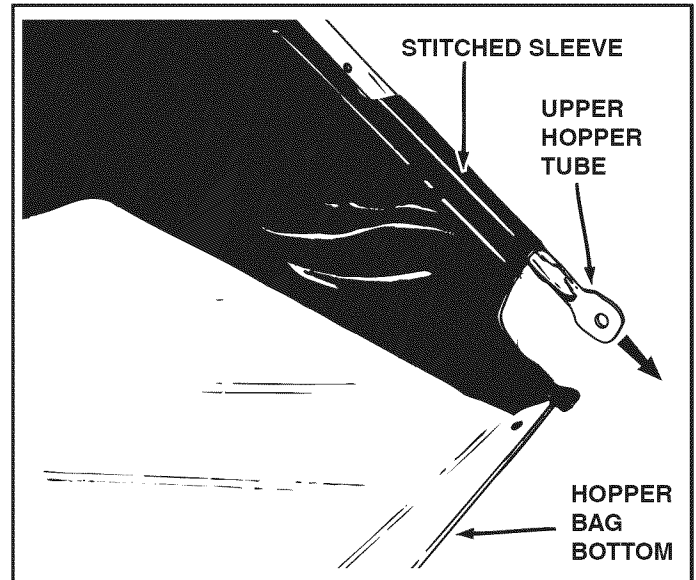

FIGURE 8
- Insert the ends of the assembled upper hopper tubes down through the stitched sleeves in the sides of the hopper bag and then slide the tubes back underneath the wind screen. See figure 8.